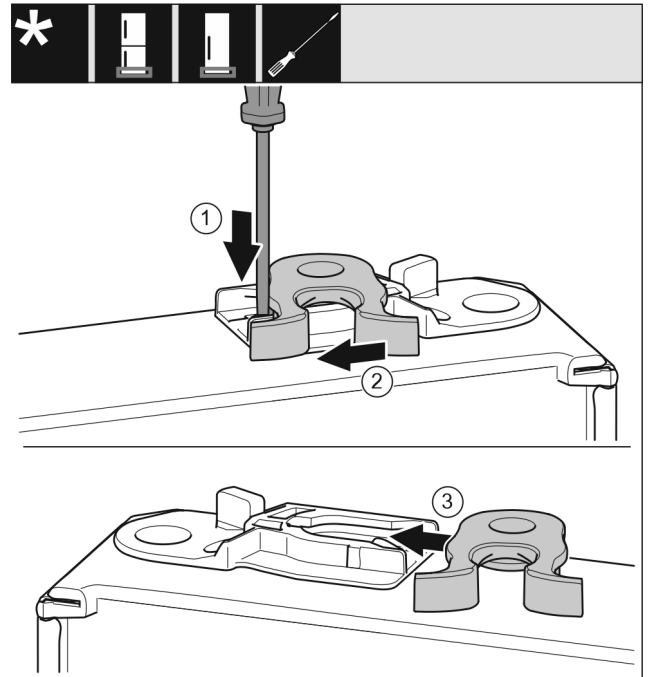

Fig. 18
- Use a slotted screwdriver to push the tab Fig. 18 (1) downwards.
- Pull the closing hook Fig. 18 (2) out of the guide.
- Insert the closing hook Fig. 18 (3) into the guide on the other side.